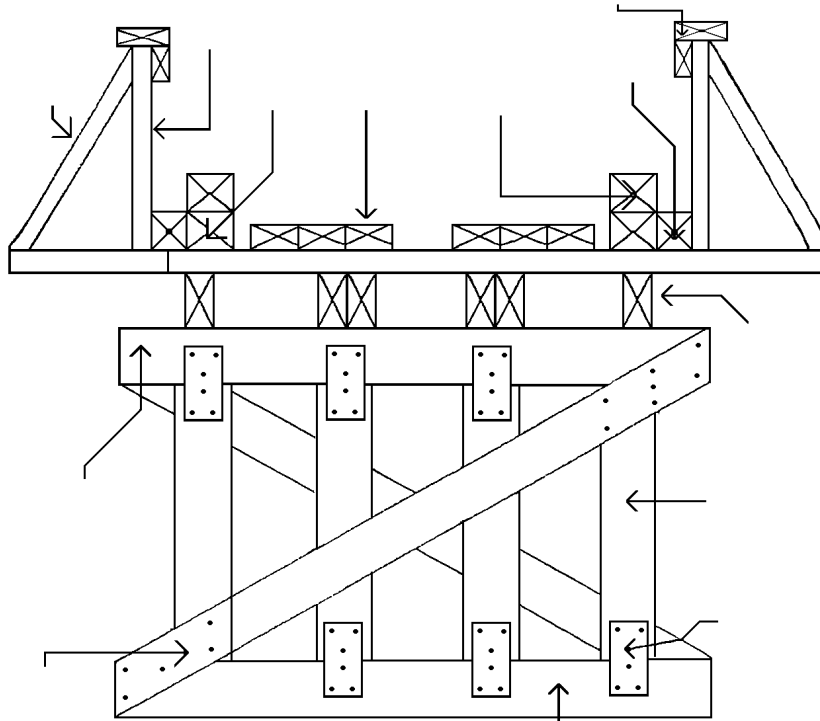

Figure 1
d. Identify the structural members of a heavy timber bridge from figure 1 operations: